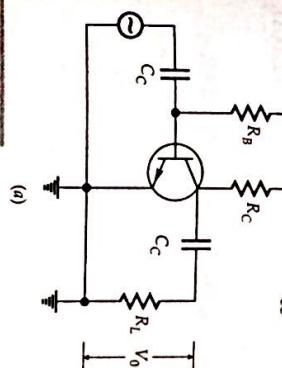

Figure 5.66
**Problem 5.3** In a transistor amplifier as shown in Fig 5.66(a),  $R_C = 8k\Omega$ ,  $R_L = 24k\Omega$  and  $V_{CC} = 24V$ . Draw the d.c. load line, determine the optimum operating point. Also draw the a.c. load line.